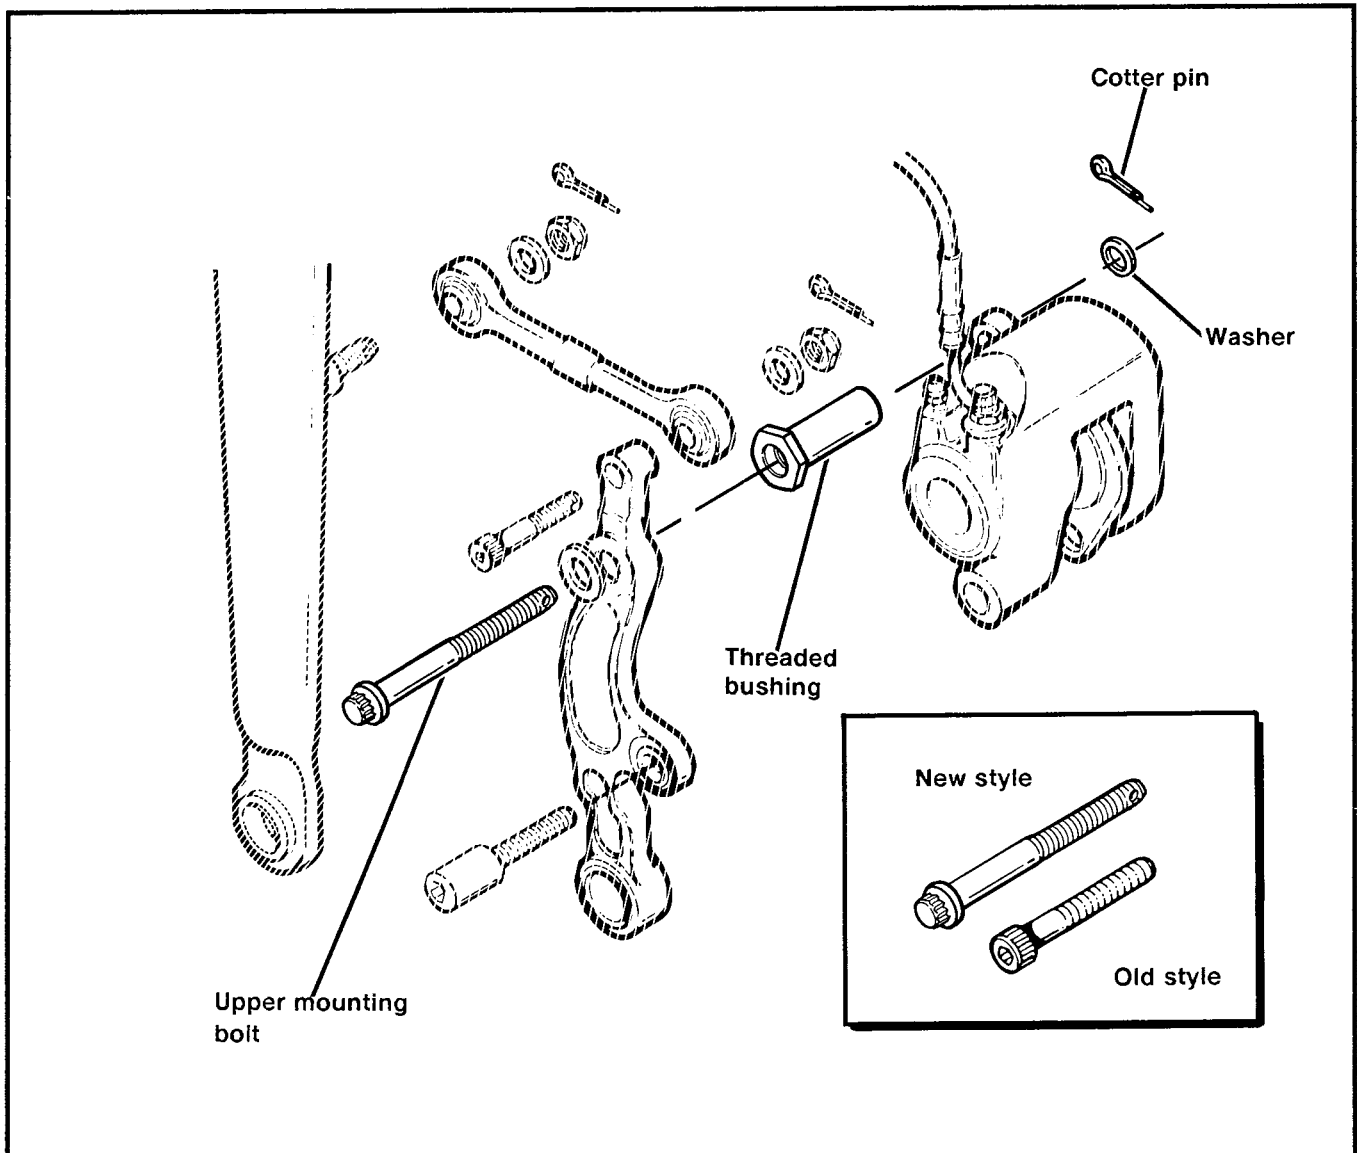

Figure 1. Springer Front Brake Caliper
The upper front caliper mounting bolt head is being changed to a 12 point style, drilled at the thread end to accept a cotter pin. Because the assembly process requires the upper and lower bolts to be torqued differently, this change to the upper bolt will make it easier to differentiate one bolt from the other. See Figure 1. Additionally, a washer and cotter pin are being added to this bolt to further restrain movement, in the unlikely event all bolt torque was lost.
**To further determine if a particular FXSTS vehicle is involved in the 063 recall, inspect the caliper upper mounting bolt. Figure 1 illustrates the old and new style bolt.**
2. See Figure 1. Remove upper mounting socket head bolt and washer. Retain washer.